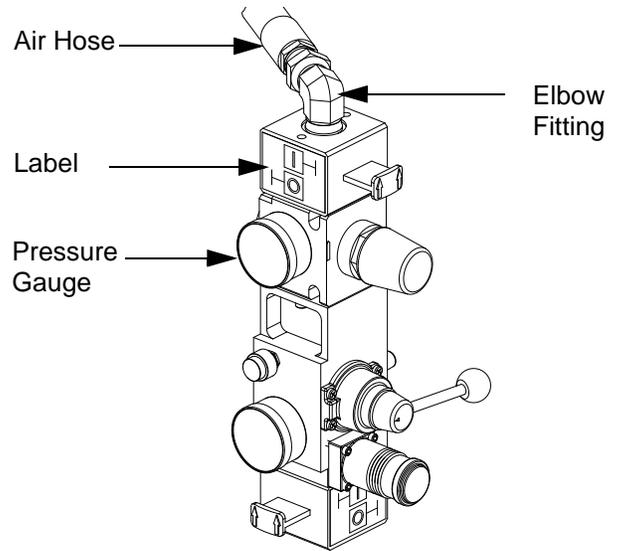

FIG. 15: Air Control Assembly
- b. Remove the air motor slider valve label. See FIG. 15.
- c. Loosely install the air valve assembly (3). Grease the o-ring included with the air valve assembly. Install the o-ring and then finish installing the air valve assembly. Secure with screw.
- d. Install the new air motor slider valve label that is included with the air valve assembly. See FIG. 15.
- e. Coat the gauge fitting with PTFE tape, and then reinstall. Use a wrench to tighten. See FIG. 15.
- f. Coat the swivel fitting (32) with PTFE tape. Install the fitting and air hose on the back of the new air valve assembly. Use two wrenches to tighten.